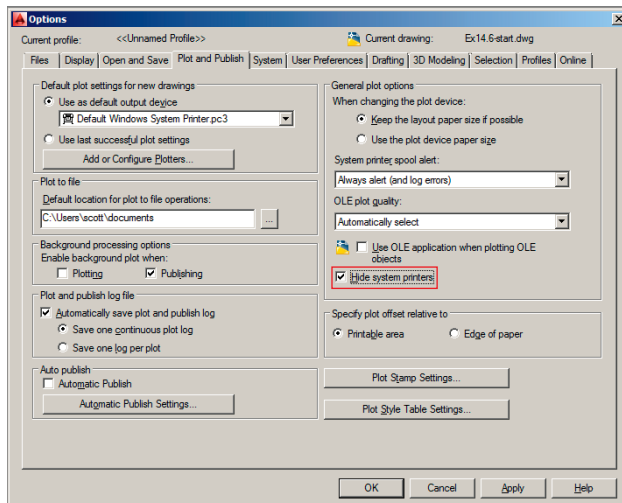

FIGURE 14.14 Hiding the system printer drivers in the Options dialog box
3. Select the Plot And Publish tab. Select Hide System Printers in the General Plot Options area (see Figure 14.14). Click OK.